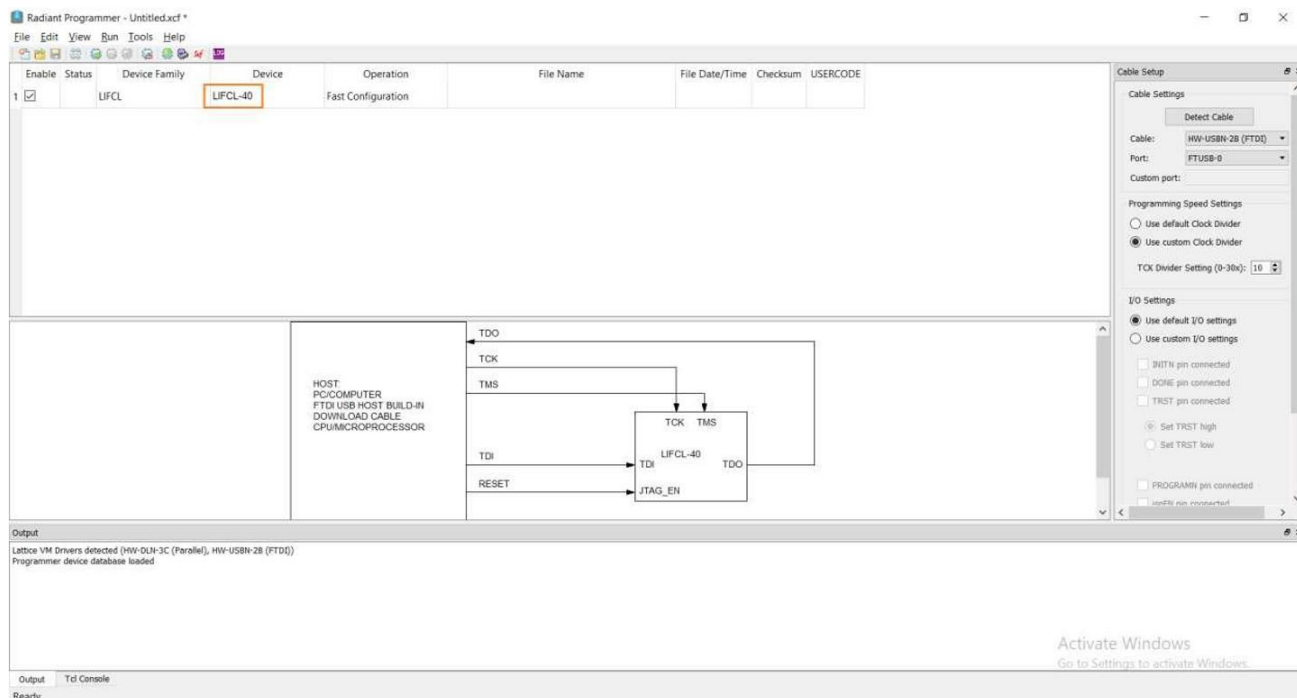

Figure 3.5. Lattice Radiant Programmer Window
4. The main interface opens as shown in Figure 3.5.